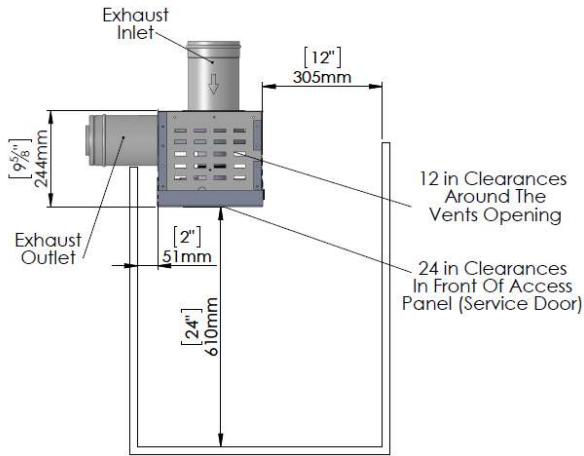

Figure 1: Inline Power Vent Box Dimensions and Safety Clearance
- a. 24-inch clearance in front of access panel for service and removal. *See Figure 1: Inline Power Vent Box Dimensions and Safety Clearance on page 10.*
- b. 12-inch clearance above axillary fan for cooling (if axillary fan is part of fan box assembly). *See Figure 1: Inline Power Vent Box Dimensions and Safety Clearance on page 10.*
- c. 2-inch clearance on Ortal Power Vent sides and bottom. *See Figure 1: Inline Power Vent Box Dimensions and Safety Clearance on page 10.*